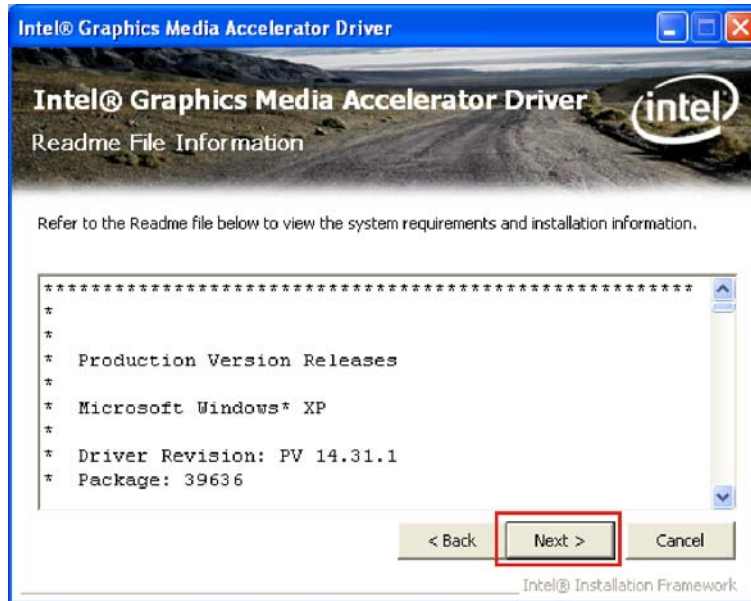

Figure 7-12: GMA Driver Installing Notice
Step 10: The Readme file appears (Figure 7-12).